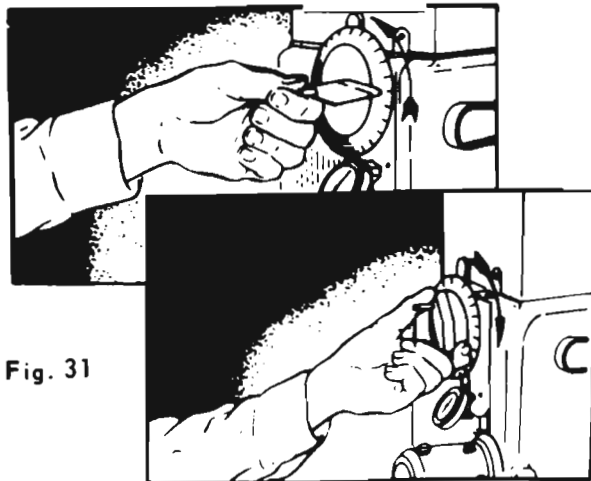

Fig. 31
- a. Back off feed dial (counter-clockwise) all the way, then advance it clockwise four turns. (Fig. 31).